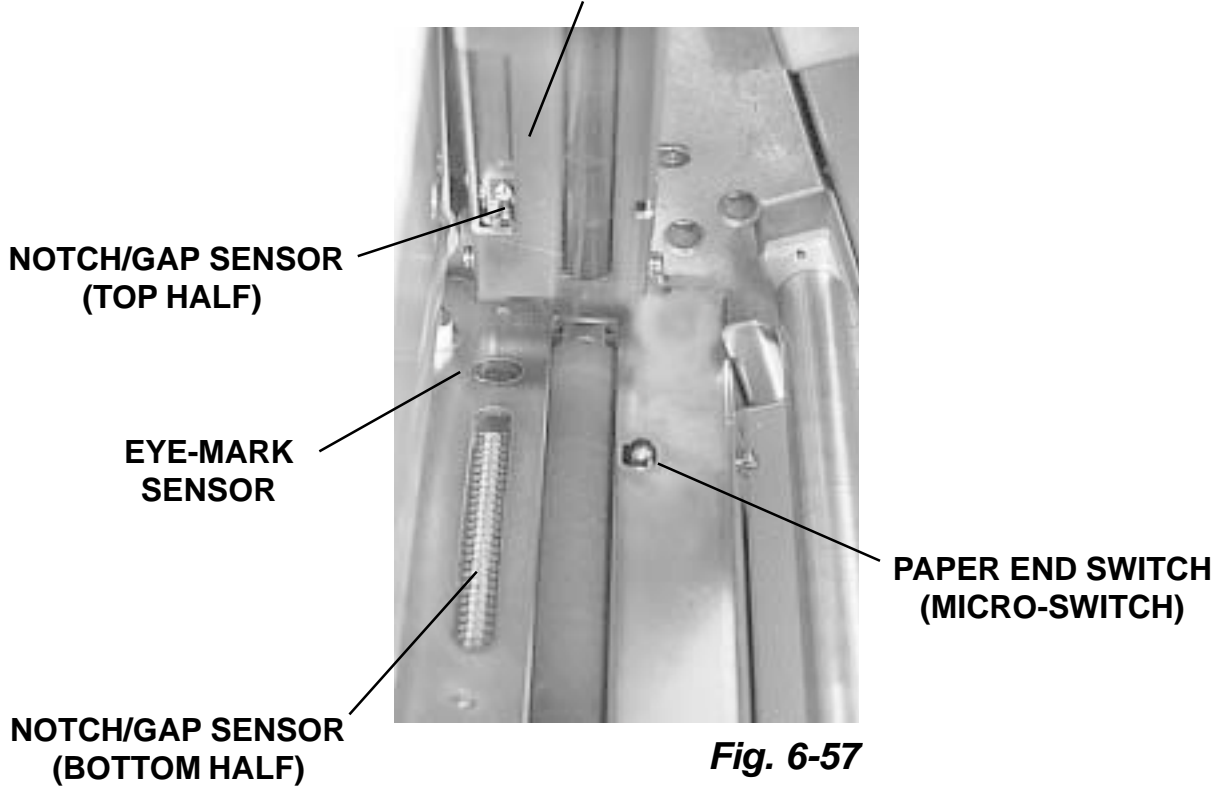

Fig. 6-57
4.	Raise the media hold-down cover and locate the sensors. Fig. 6-57 Remove (3) screws to detach the ramp plate from the ramp frame (mechanical section). Fig. 6-58